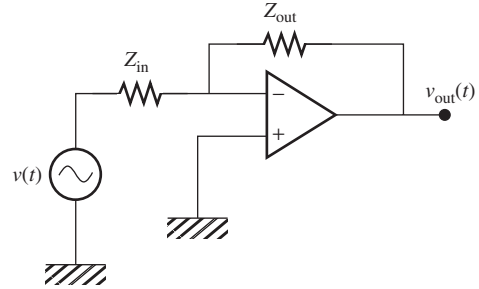

FIGURE P6.40 An inverting amplifier.
6.40 (A) An op amp is used as an amplifier to increase the magnitude of voltage output given the input voltage source. An **inverting amplifier** (see Figure P6.40) is one popular type of op amp. Given that the inverting amplifier has a gain of $G = -(Z_{out}/Z_{in})$, what is the output voltage if the voltage source is $v(t) = 50 \cos(120\pi t + 30^\circ)$ V and $Z_{in} = 35 \Omega$, $Z_{out} = 100 \Omega$.